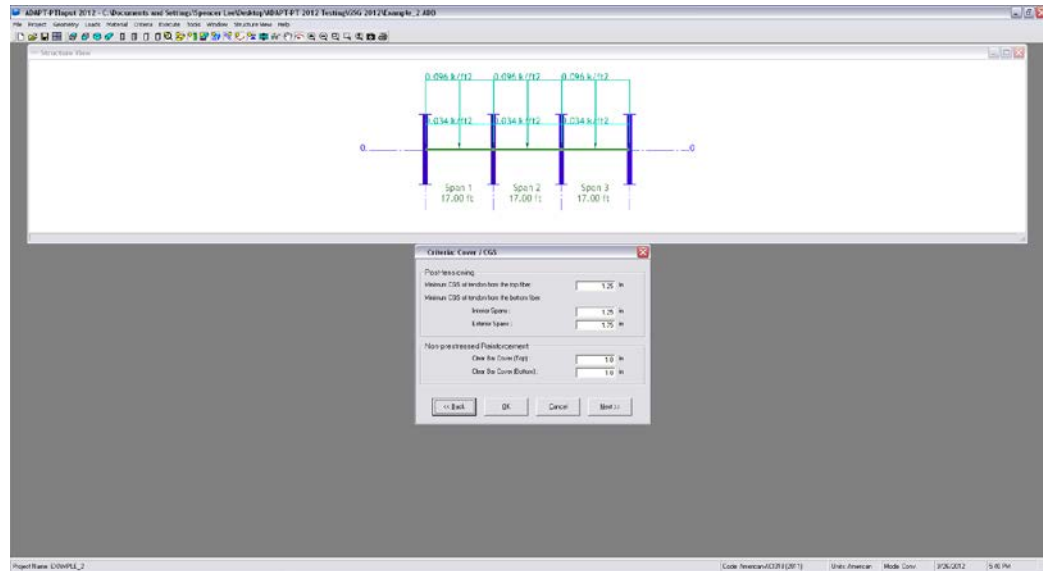

FIGURE 3.1-17
3.1.5.5 Specify Minimum Covers For Post-Tensioning Tendons And Mild Steel Reinforcement (Fig. 3.1-17)